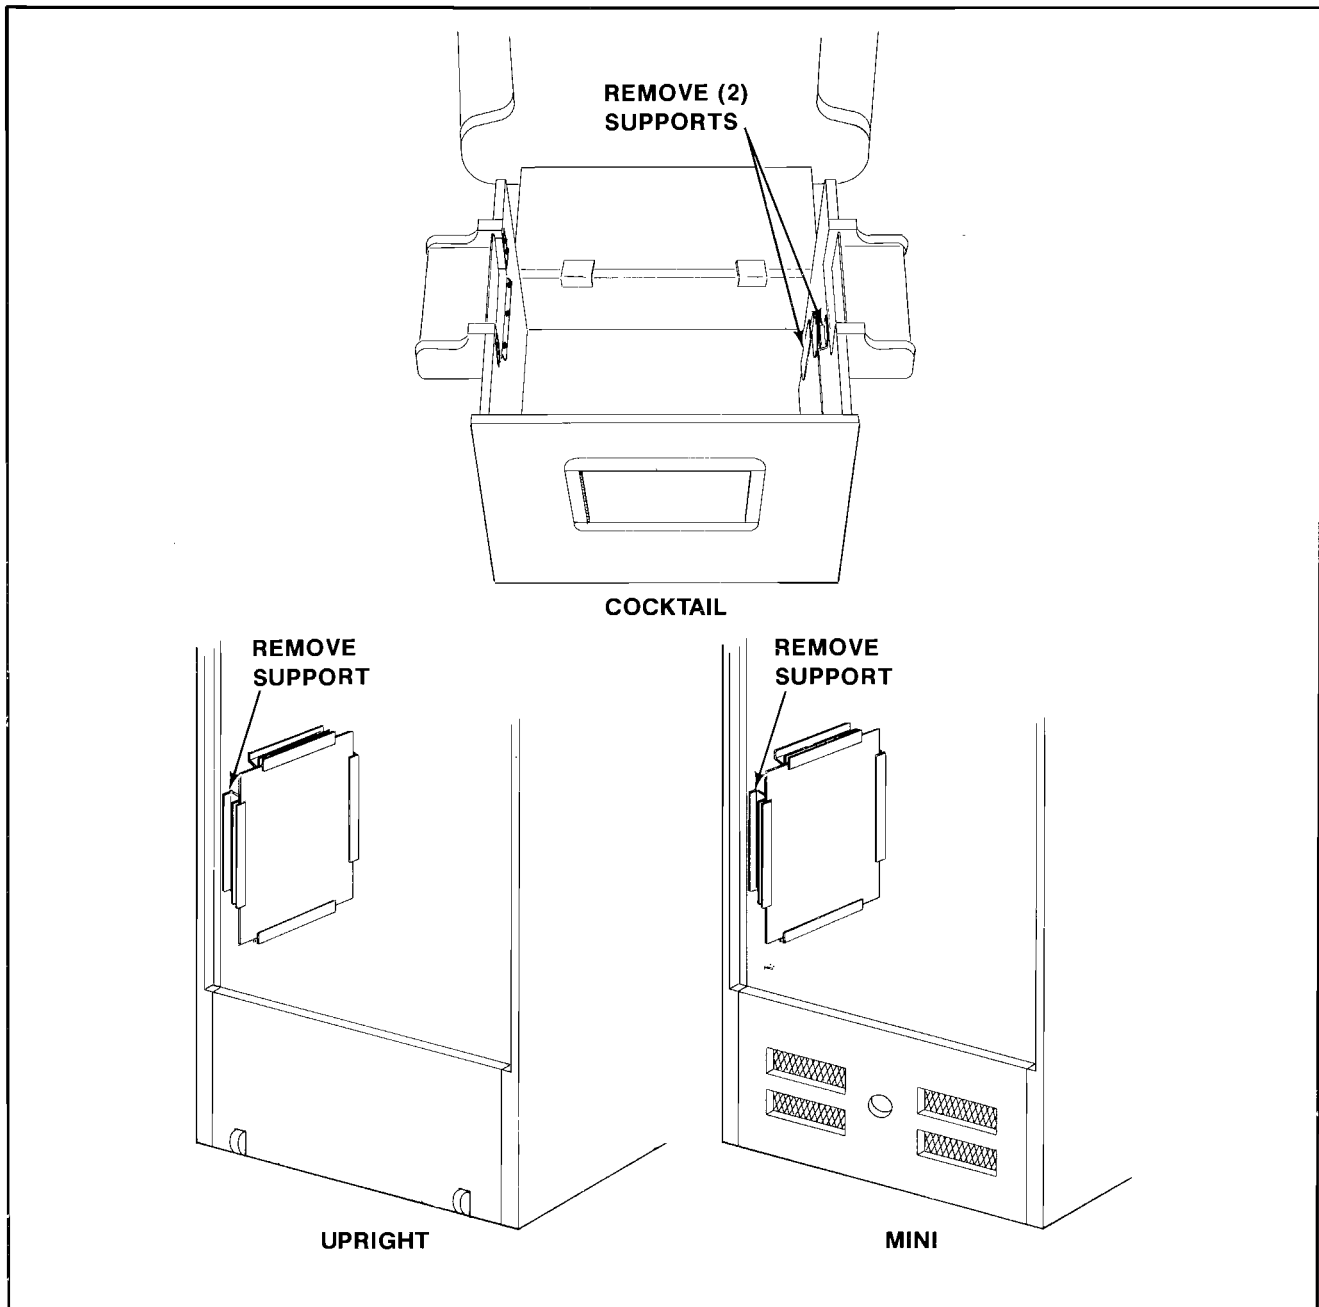

Figure 4-12 Removing P.C.B.s
### 1. UPRIGHT MODEL: See Figure 4-12.
- Disconnect the linear power supply board from all its cabling, remove the P.C.B. supports indicated in Figure 4-12, and slide the linear power supply board out the back of the cabinet.
**2. MINI MODEL:** See Figure 4-12.
**3. COCKTAIL TABLE MODEL:** See Figure 4-12.
- Remove the linear power supply board. See Figure 4-12.